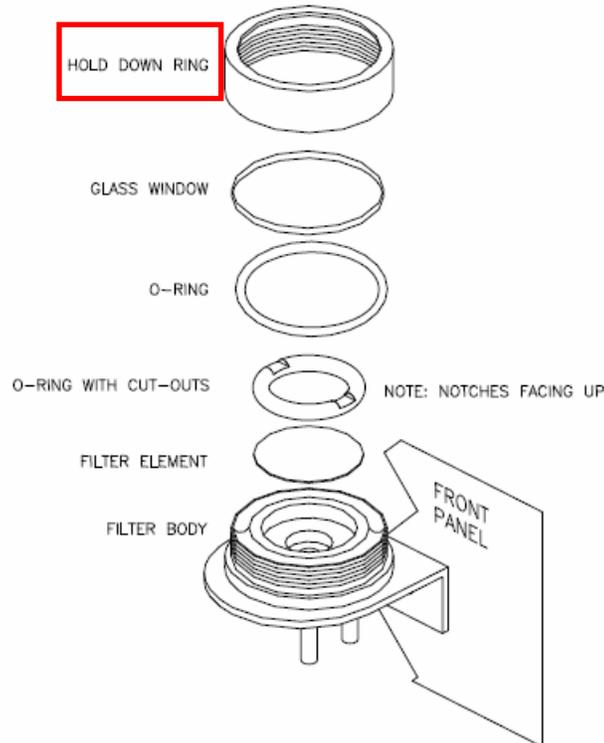

Figure 7 T200UP Particulate Filter
When filter (PN 002730000) is changed (see **Figure 7**, pg. 37), handle it and the wetted surfaces of the filter housing as little as possible. Do not touch any part of the housing, filter element, PTFE retaining ring, glass cover and the o-ring with your bare hands. Teledyne API recommends using gloves or tweezers to avoid contamination of the sample filter assembly.
2. Open the T200UP's hinged front panel and unscrew the hold down ring on the filter assembly (see **Figure 7**, pg. 37).